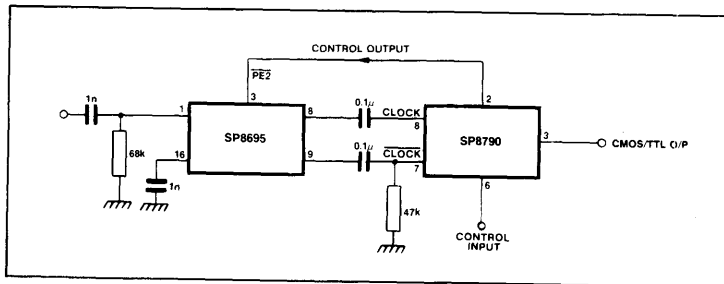

Fig.5 Typical interfacing to suppress self oscillation with no input signal
5. When used as a controller the circuit will self-oscillate. This can be prevented by using one of the arrangements as shown in Fig. 5.
6. The control output, which includes an internal 16k pull-down resistor is ECL compatible and interfaced directly into, for example, SP8695. See Fig. 5.